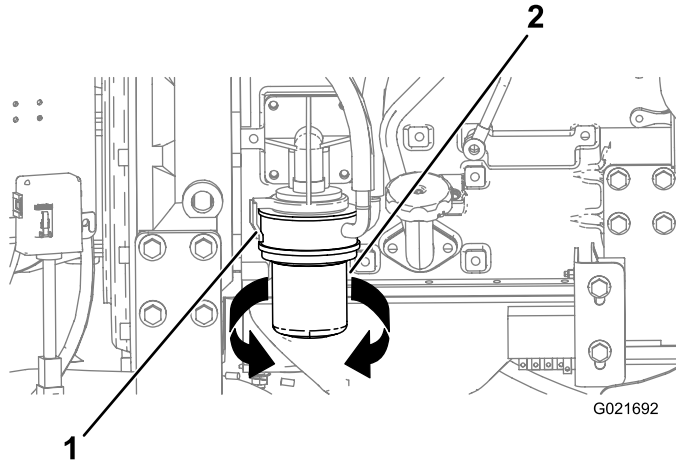

Figure 86
3. Align a drain pan or several rags under the oil filter and the oil-filter adapter (Figure 86).
4. Rotate the oil filter counterclockwise and remove the oil filter (Figure 86).
8. Align the oil filter to the oil-filter adapter and rotate it clockwise until the seal of the oil filter contacts the oil-filter adapter (Figure 86).
9. Hand tighten the oil filter an additional 1/2 turn (Figure 86).